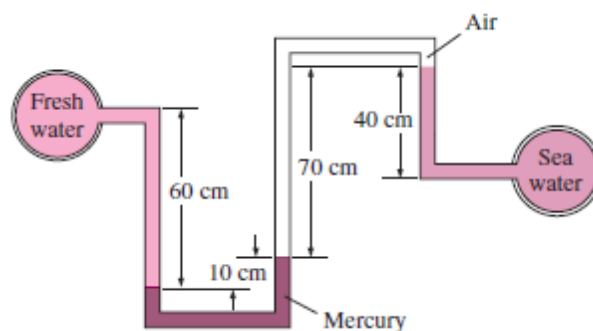

Figure 4
4. Freshwater and seawater flowing in parallel horizontal pipelines are connected to each other by a double U-tube manometer, as shown in Fig. 4. Determine the pressure difference between the two pipelines. Take the density of seawater at that location to be $\rho = 1035 \text{ kg/m}^3$. Can the air column be ignored in the analysis?